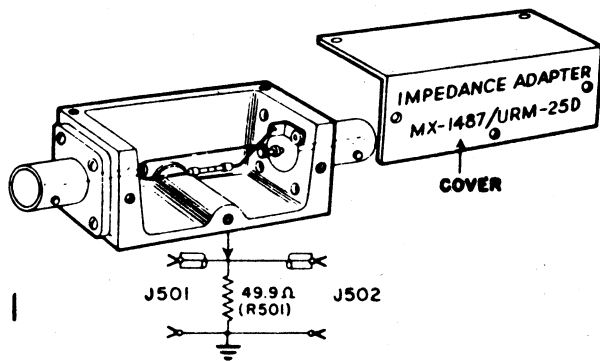

Figure 4-3. Impedance Adapter MX-1487/URM-25D
- a. When the 50 ohm cable assembly (W104) is plugged into the X-MULT RF OUTPUT jack (J102) and terminated properly (50 ohms), no standing waves will be present. An impedance adapter MX-1487 URM-25D consisting of a 50 ohm composition resistor (R501), contained in a rectangular aluminum case (figure 4-3)